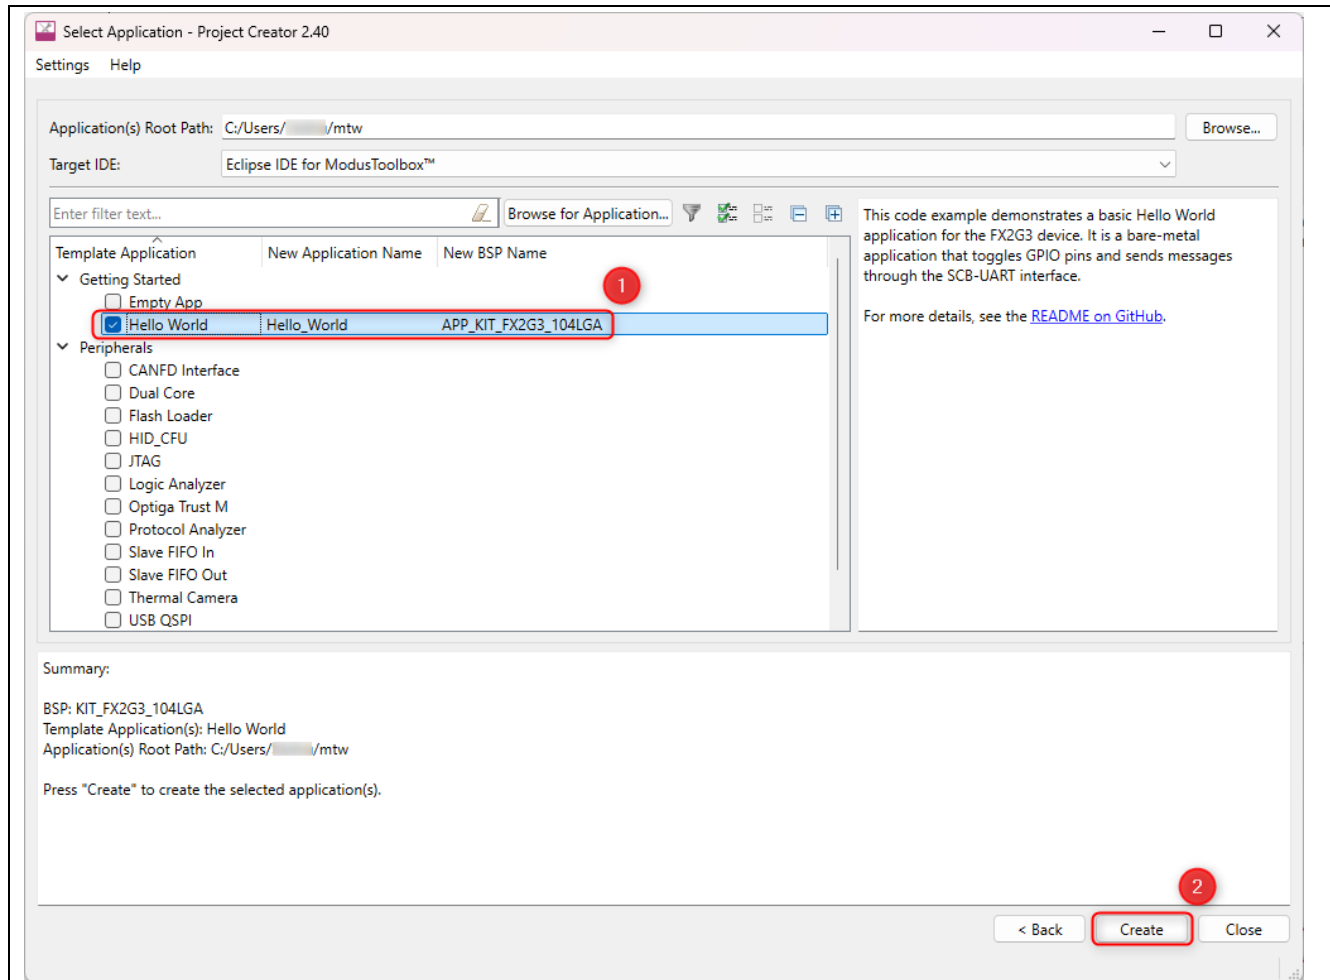

Figure 5 Selection of an application
4. To create an application, choose the desired template from the list of available applications, as shown in Figure 5, and click on **Create**